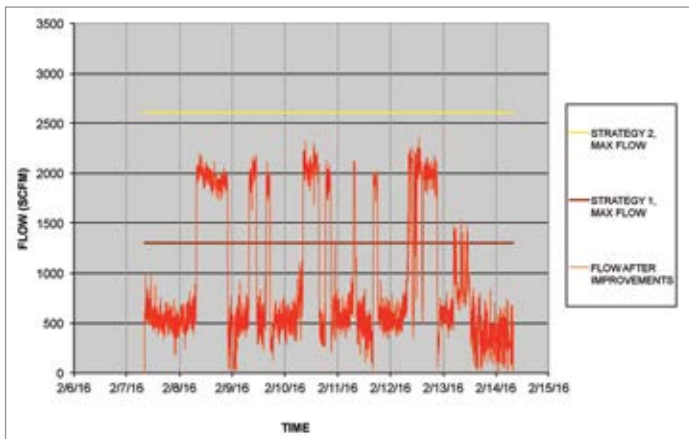

Figure 2. Flow Profile
1. Full system process and instrumentation diagram (P&ID). This shows all relevant mechanical and instrumentation items, and their interconnection. See Figure 2 for an example P&ID.
flow meters installed and logging. Typically they don't. Draw lines across the flow profile, showing where expected combinations of compressors ("strategies") are maxed out. See Figure 2. This shows that the flow is "binary", shifting from low to high, and back again, with some "noise" in between.